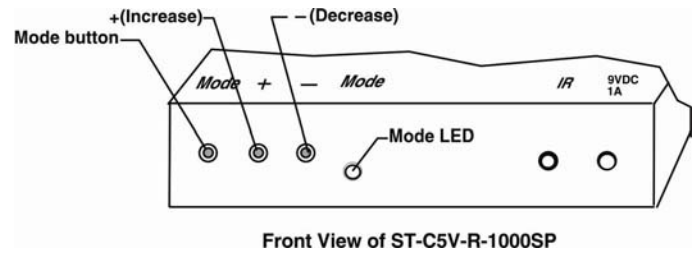

Figure 7- Video Adjustment buttons
3. If the Remote Unit has audio support, connect the cable from the remote speakers to the 3.5mm stereo audio jack with the speaker symbol on the Remote Unit. (See Fig. 7)